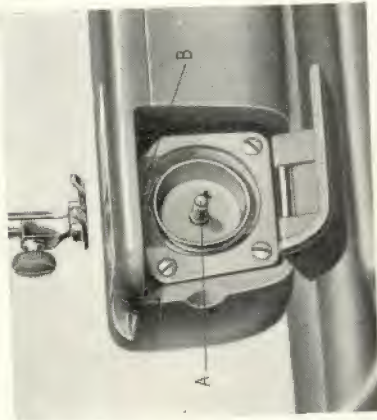

Fig. 11.
Push the bobbin case onto the centre post of the shuttle (A, Fig. 11), with its projection upwards so as to fit the notch (B) in the shuttle race. Press the case firmly into place.